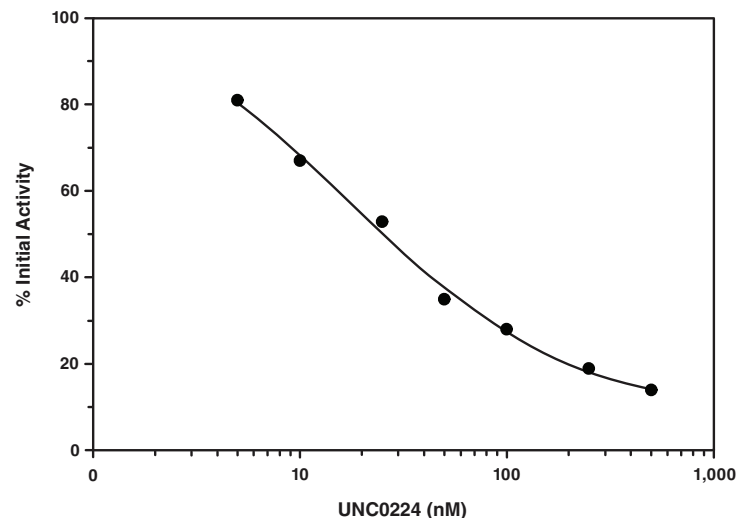

Figure 3. Inhibition of human recombinant G9a methyltransferase by UNC0224 ($\text{IC}_{50} = 25.2$ nM using the final concentration of 30 μM acceptor peptide)
4. Graph the percent inhibition or percent initial activity as a function of the inhibitor concentration to determine the IC_{50} value (concentration at which there was 50% inhibition). The inhibition of human recombinant G9a methyltransferase by the specific G9a histone methyltransferase inhibitor, UNC0224, is shown in Figure 3 (see page 13) as an example.¹²